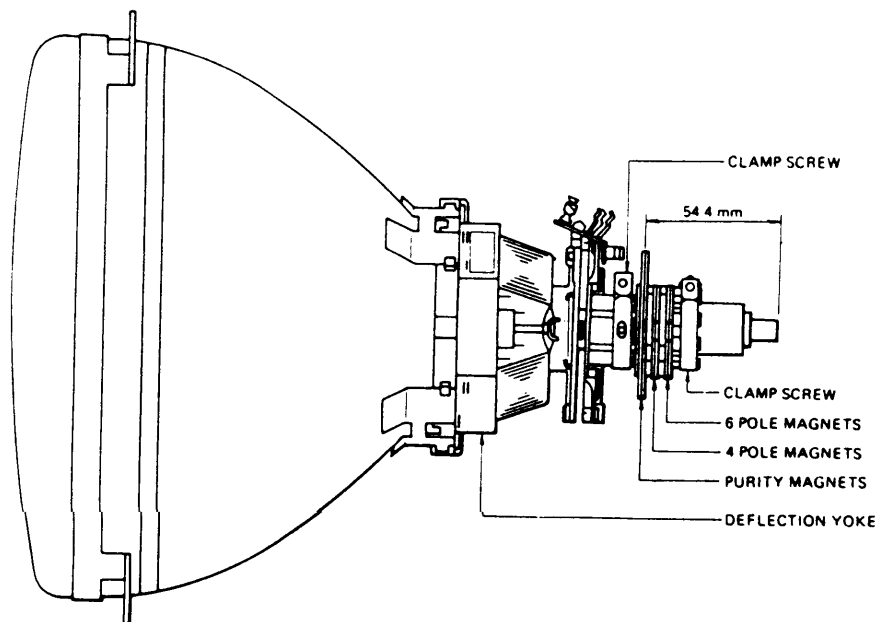

Fig.5 Picture Tube Neck Component Location
1. Check for correct location of all neck components. (Refer to Fig. 5)
(Refer to Fig. 5 & 6)
IMPORTANT: Before proceeding, check location of the convergence magnet assembly on the neck of the CRT as shown in Figure 5. The rear edge of this assembly must be positioned $\frac{3}{4}$ inch from the tip of the CRT base. If not properly positioned, convergence adjustment may be difficult, if not impossible.